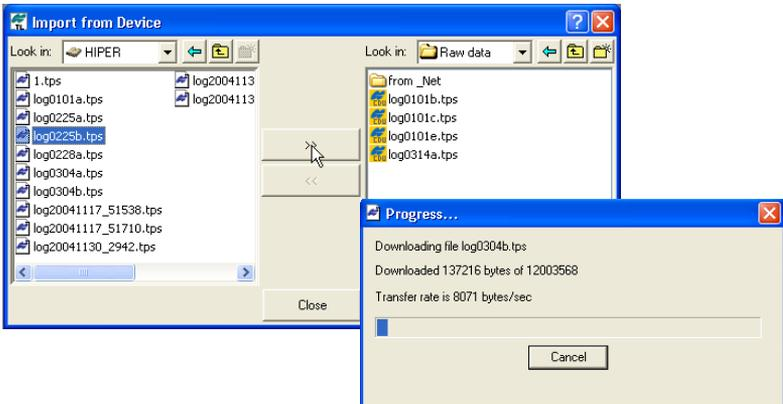

Figure 5-8. Select the Raw Data File to Import and View Import Progress
5. In the right panel of the *Import From Device* window, navigate to and select, or create, a folder in which to save the files (Figure 5-8).
6. To view the collected raw file, double click (or click *Select* in the pop-up menu) the receiver. To import the file(s) from the receiver to the computer and to save in the selected folder, highlight the file(s) and click the double arrows (Figure 5-8).
The import progress bar displays (Figure 5-8).